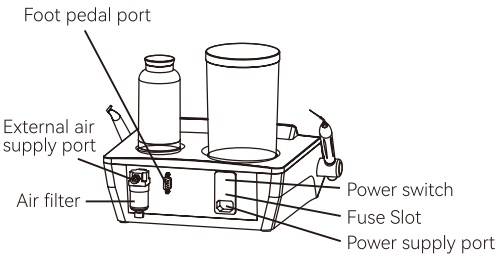

Figure 2 Back view
- 2.6.6 wer switch, connect the power cord with the power port on the back of the main unit, and then plug in the 220VAC power, as shown in Figure 2.